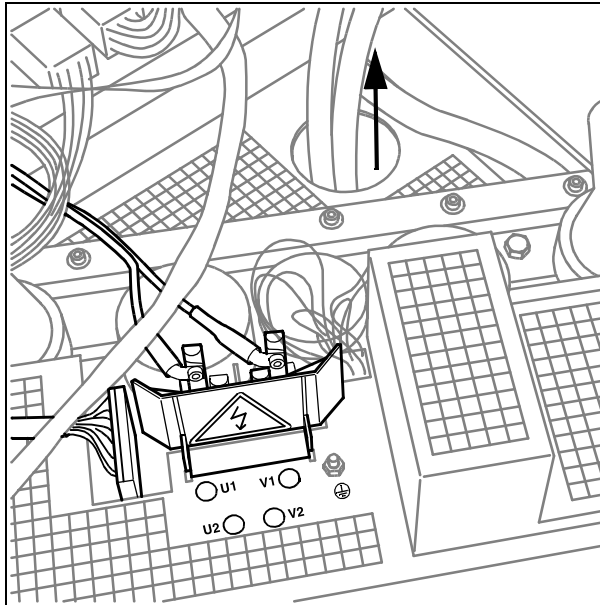

Fig. 21:
- Run the high-voltage cables up to the high-voltage transformer (arrow/Fig. 21 / p. 35) .